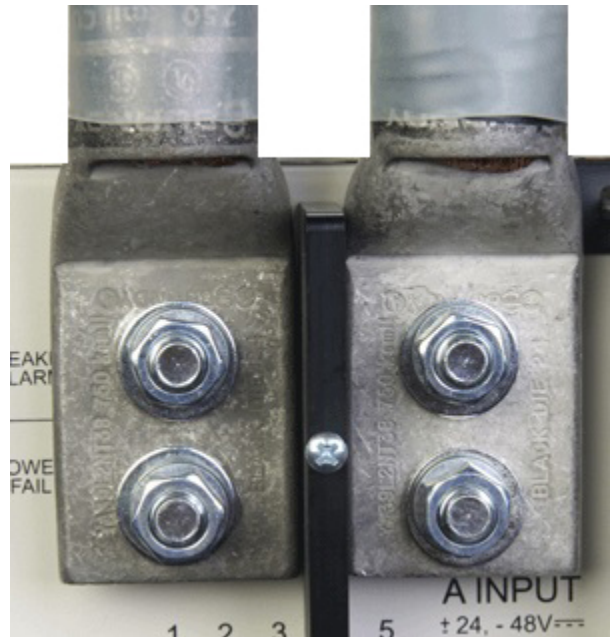

Fig. 5: Input Lug Connections
15. Connect the lugs to input terminals on the back of the panel, as shown in Figure 5.